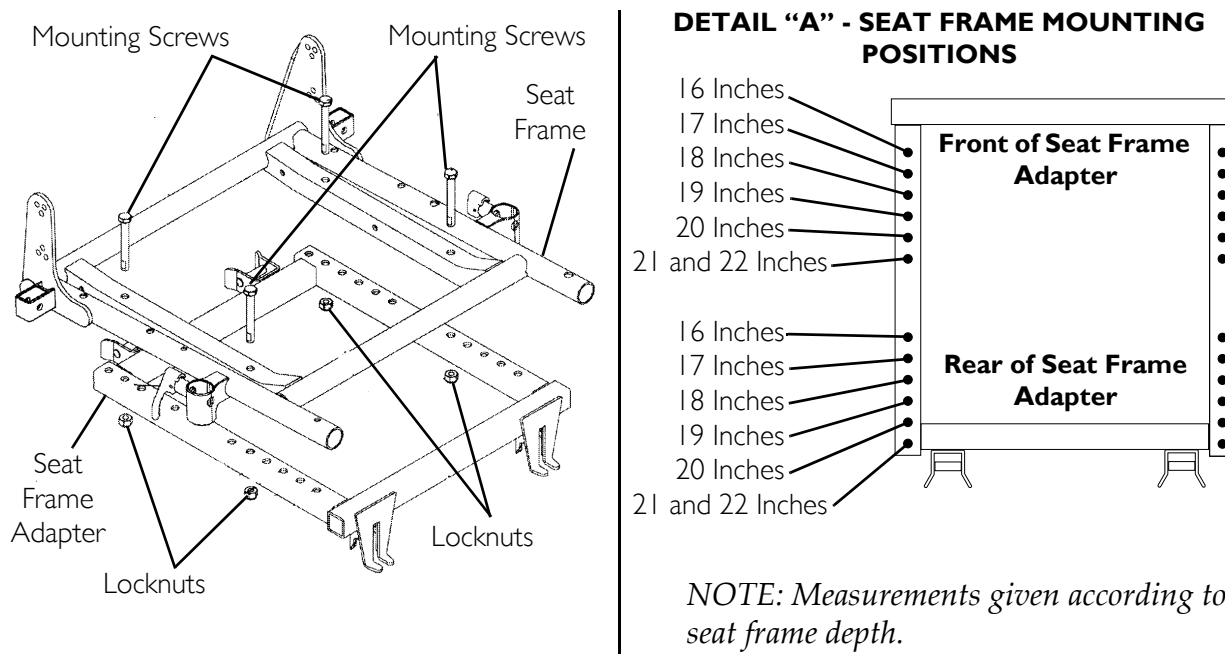

FIGURE 4.7 Replacing the Seat Frame
NOTE: For this procedure, refer to FIGURE 4.7.
7. Align the four mounting holes of the new seat frame with the correct mounting position on the seat frame adapter (Detail “A” of FIGURE 4.7).